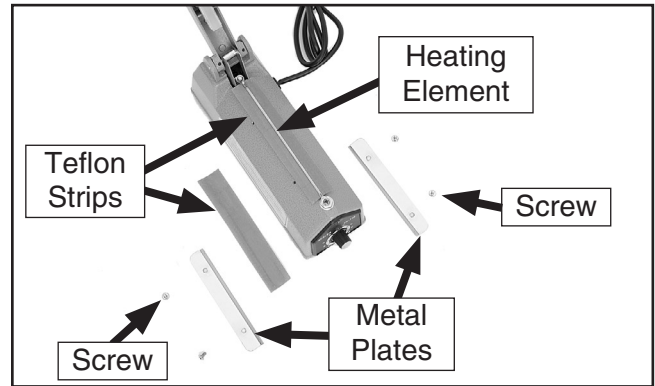

Figure 3. Teflon strips and heating element, Model H6151.
2. Remove the metal plates, the teflon strips and the heating element. On Model H6151 and H6152, remove the screw at the front of the sealer that secures the heating element (see **Figure 3**).